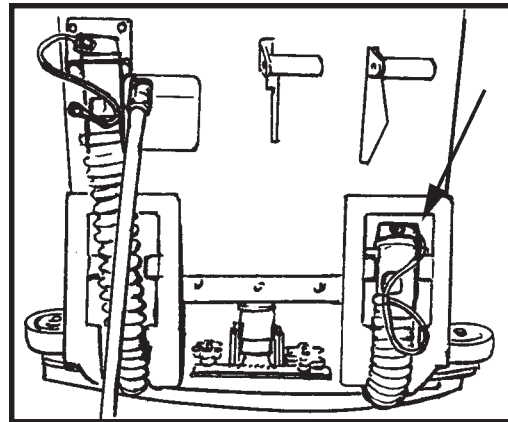
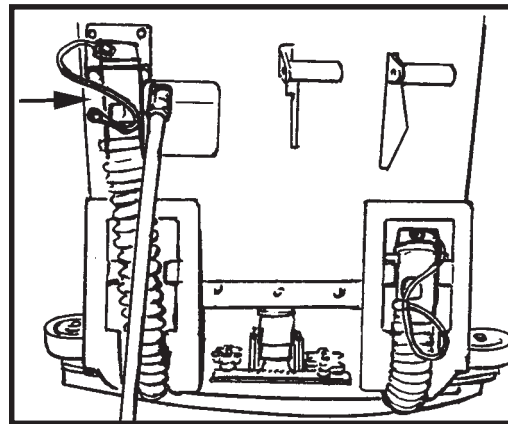

Figure 2
Figure 3
1. Drain the solution tank (Figure 2) and the recovery tank (Figure 3). To drain the tanks, follow this procedure: